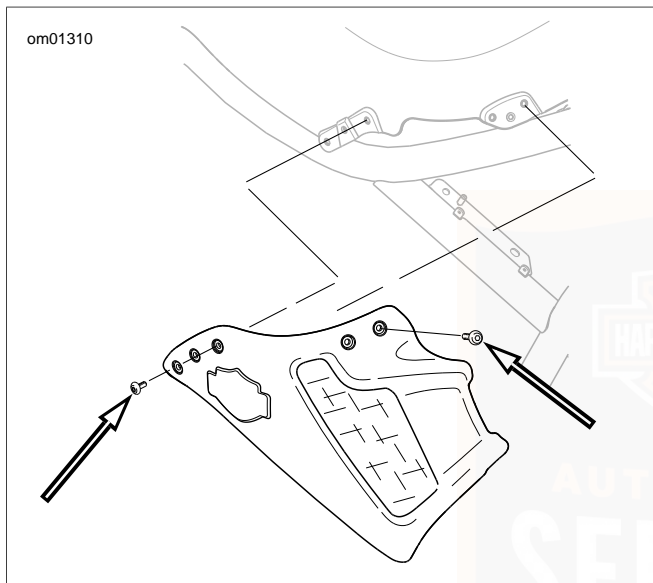

Figure 40. Front Side Cover Screws: VRSCF Model
1. See Figure 40. Remove five screws from front side cover.
1. See Figure 40. Orient the air inlet toward the front of the vehicle and align grommet in side cover with the mounting pin on frame. Press side cover to engage mounting pin.